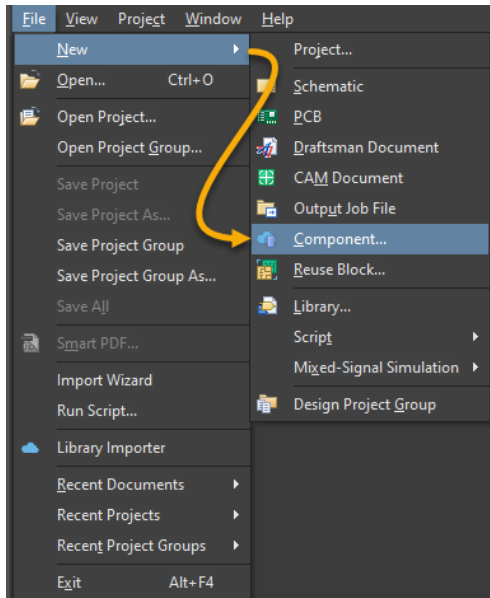

Figure 1. New Component Creation
2. Select the **File » New » Component...** command from the main menu, see Figure 1. A new dialog *Create new component* opens, described at step 4, after we show you an alternative way to start the component creation.